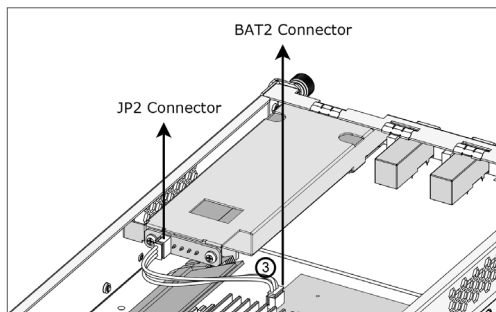

Figure C-8, Connecting to Battery
4. Use the cable in the FBM package (reference NO.3 in Figure C-3) to connect the **BAT2** (3-pin box header battery connector on the ARC-8008-FB control module) to the **JP2** (on the Battery Pack backplane connector back), as shown in Figure C-8.